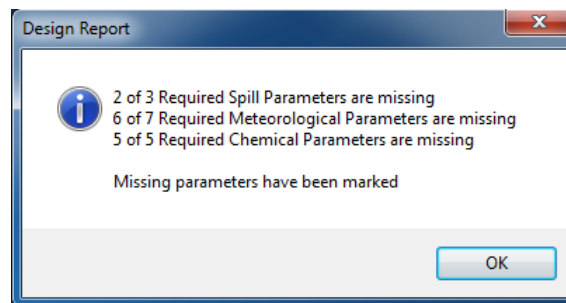

Figure 6-2: Design Report (Required Parameters)
- The Check Inputs button will perform required field validation on the input variables and provide a report to the user of required fields (Figure 6-2: Design Report (Required Parameters)).